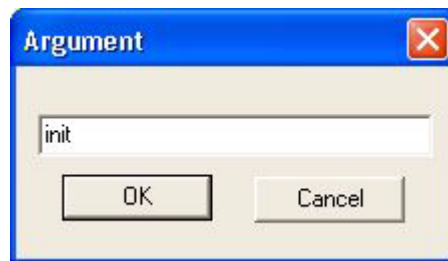

Figure 4-45. Argument Dialog Box
- 1 Selecting the `Debug > Argument` command displays the Argument dialog box (similar to Figure 4-45). The default argument is `test`. This dialog box specifies the argument that VOS passes to SHELL2A.C (V4400) or SHELL2B.C's (V5400) main function that calls different functions in your DEVICE.C program based on those arguments. The default and most commonly used argument is `test`. It causes SHELL2A.C/SHELL2B.C to call the `DoTestProgram` function when you run your test program.
- 2 Typing `init` in the text box to replace the default `test` argument (Figure 4-45) and selecting **OK** closes the dialog box.